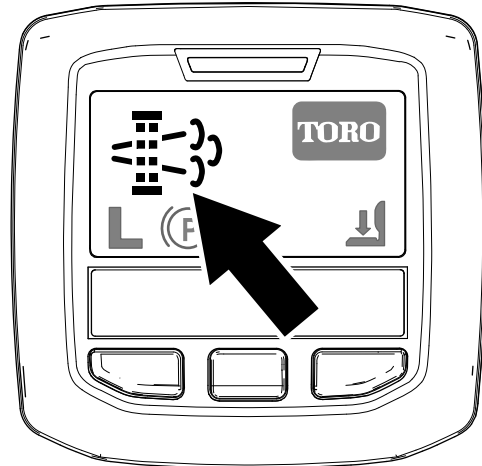

Figure 46
- The parked-regeneration requested icon displays in the InfoCenter (Figure 46).